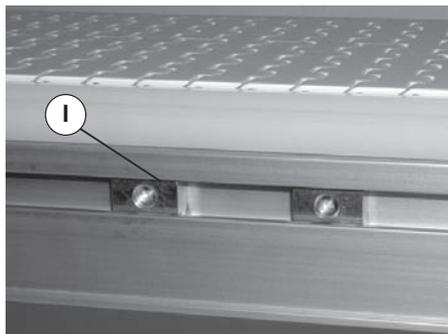

Figure 5
3. Insert T-bars (Figure 5, item I) in side of conveyor.